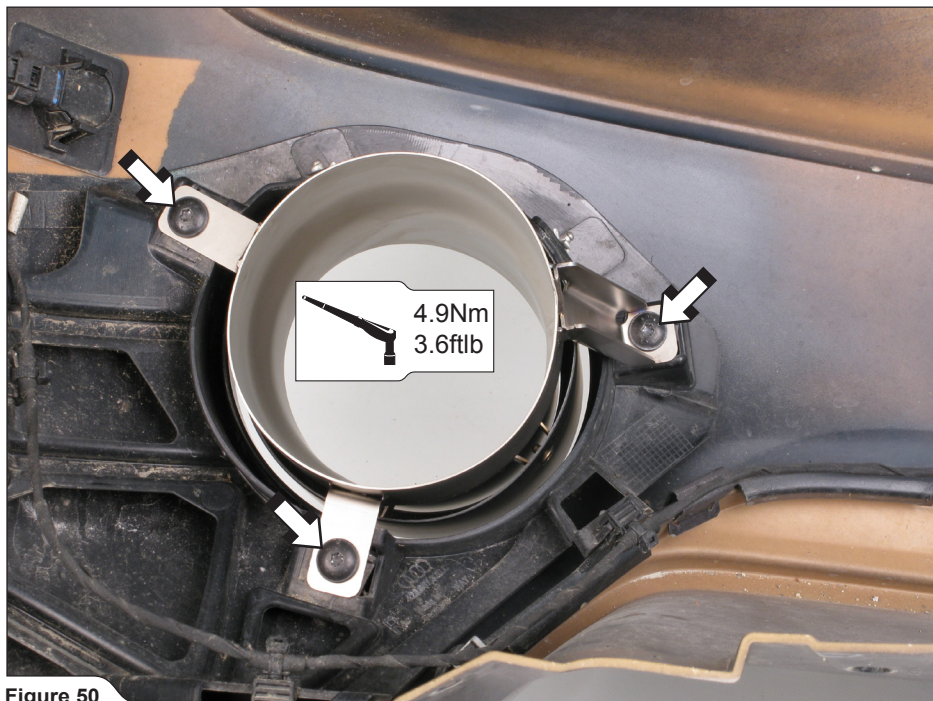

Figure 50
10. **For R8 FL model only:** align both Akrapovič Tail Pipes in respect to the trim panel and each other. Attach the Tail Pipes using stock bolts (**Figure 50**).